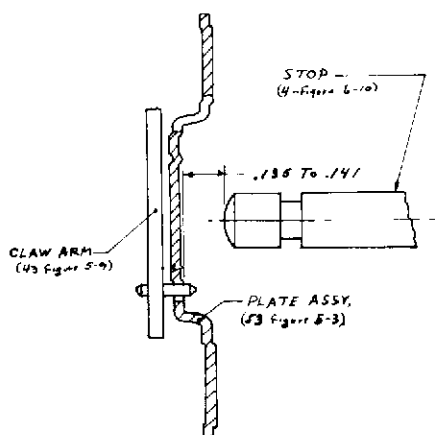

Figure 3-28. LENS HOLDER STOP ADJUSTMENT
- a. Assemble belt (24) with toothed surface away from pulley.
- b. Lubricate working surface of plunger (16) and arm (11) with Versilube G-322L grease.
- c. Replace retainer (12). DO NOT REUSE.
- \* b. Adjust stop (p/o Lensholder 41, Fig. 5-3) to produce .135 to .141" as shown in Fig. 3-28.